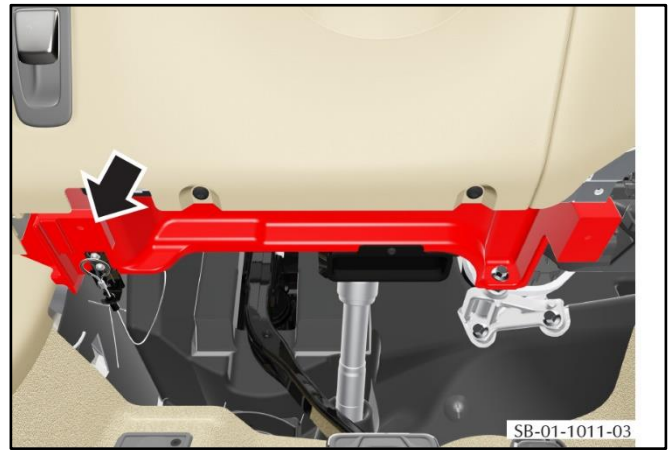

**Figure 6**
2. Identify the position where the outboard end of the driver knee airbag is attached to the cross-car beam assembly (refer to Figure 6).